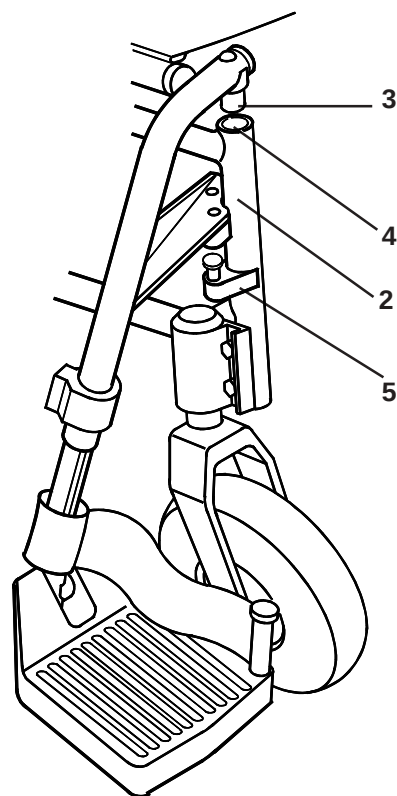

Fig. 15
To replace a footrest (Fig. 15), place the swingaway pivot saddle (3) into the receiver (4) on the frame (2) with the footrest facing outward from the frame. Rotate the footrest inward until it locks into place on the locking stud (5).